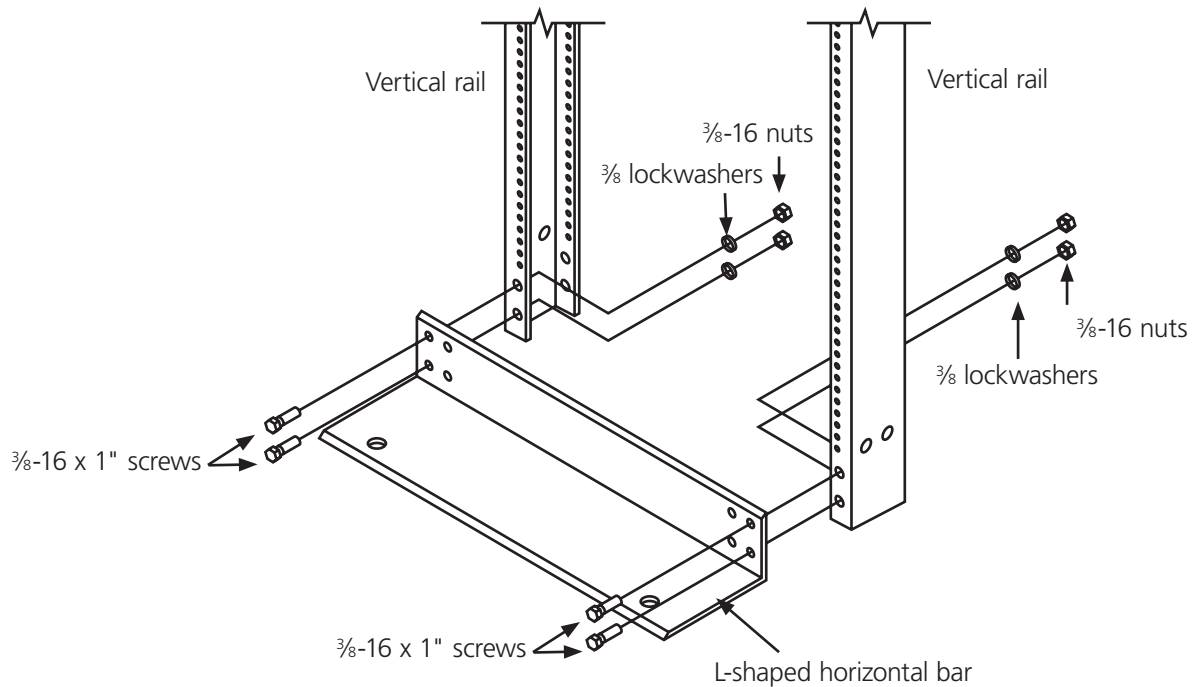

Figure 2. Connecting the L-shaped horizontal bar to the vertical rails.
2. As shown in Figure 2, using (4) $\frac{3}{8}$ -16 x 1" screws, (4) $\frac{3}{8}$ lockwashers, and (4) $\frac{3}{8}$ -16 nuts, attach the bottom L-shaped horizontal bar to the bottom front side of the first pair of vertical rails.